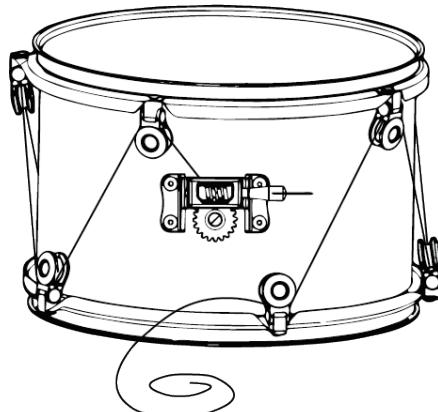

Fig. 2
- 5.** Once the hoops are properly aligned (see Alignments and Assembly guides on previous pages), lace cable through pulley fixtures starting with the closest top pulley to the tuning knob, then the next pulley on the opposing hoop, until you have threaded through all of the pulleys (**Fig. 2**).